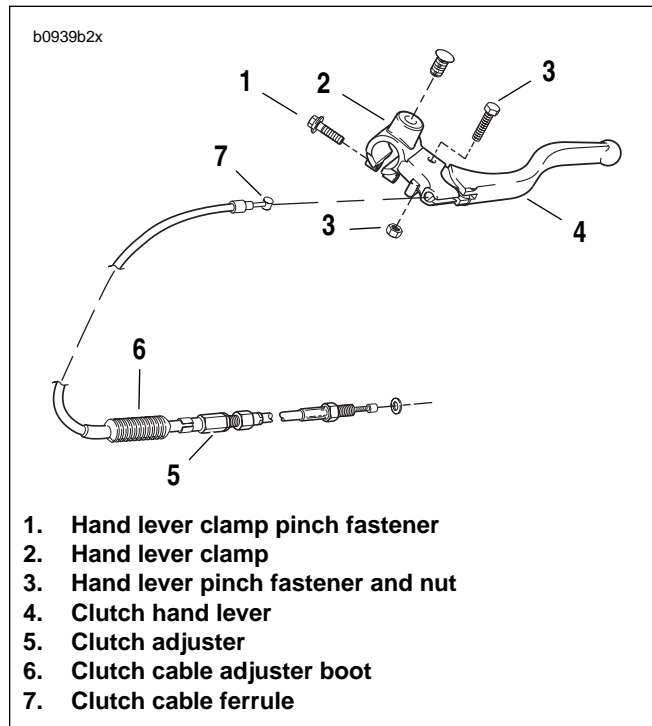

Figure 2-103. Clutch Hand Control Assembly
8. See Figure 2-103. Connect clutch cable ferrule (7) to hand lever (4).